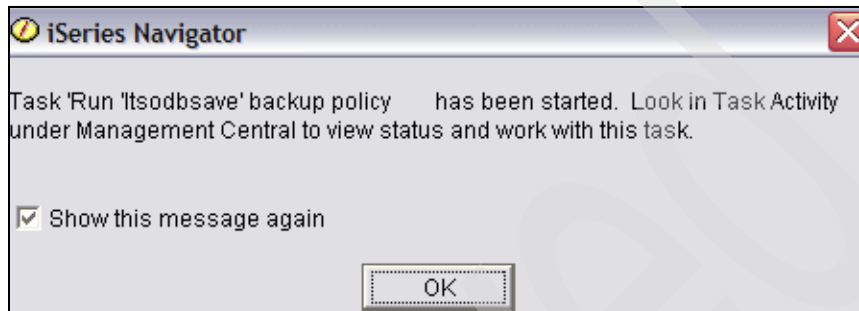
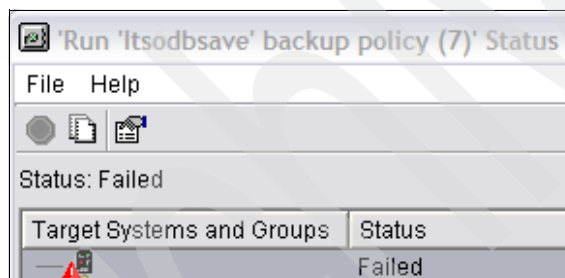
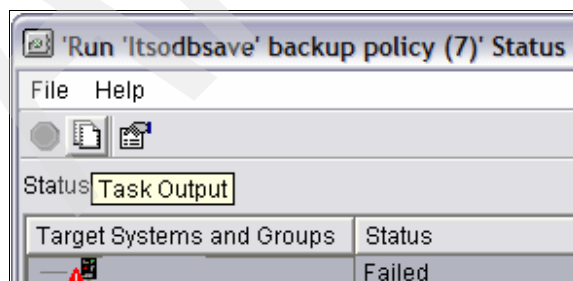

Figure 8-6 Status pop-up
Figure 8-7 Status failed
Figure 8-8 Task icon
Pop-up windows also appear, such as the ones shown in Figure 8-6 and Figure 8-7.
- Figure 8-7 shows that the job failed. To determine why, click **Task output** button, as shown in Figure 8-8.